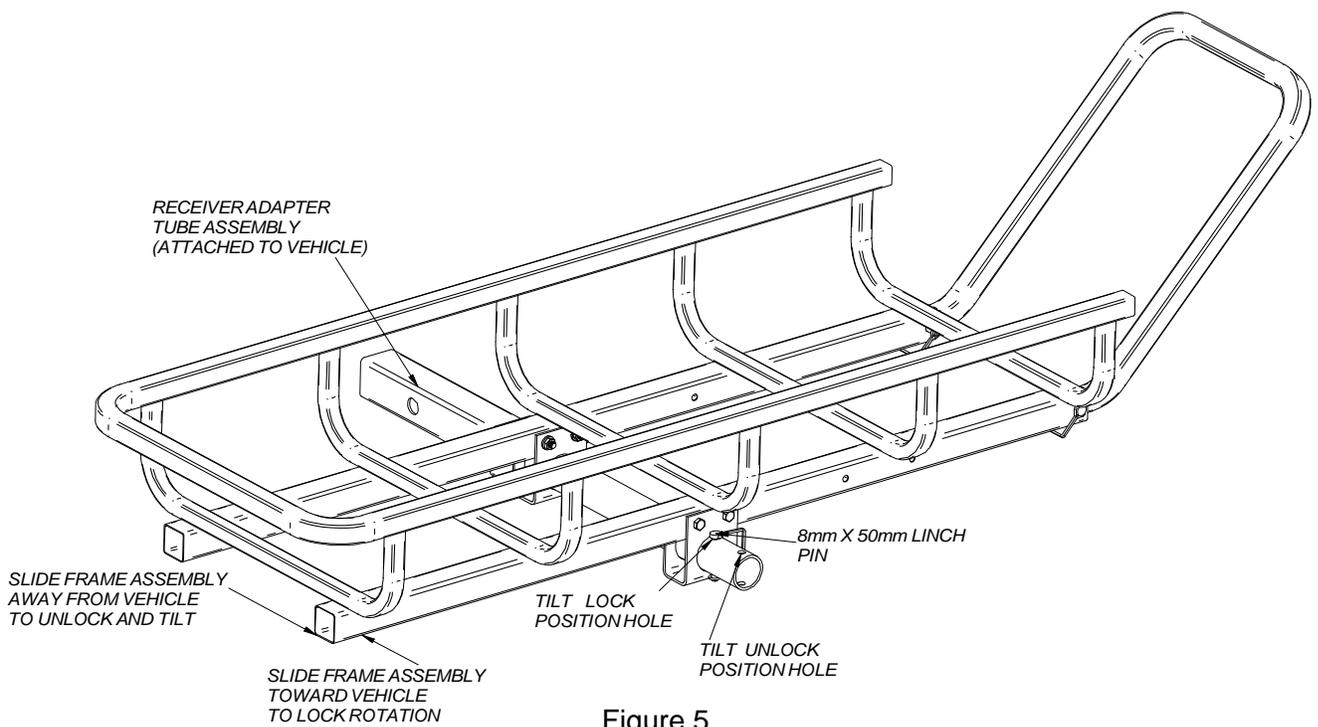

Figure 5
When attached to a vehicle as shown in figure 5, the unique Tilt-n-Go design allows for easy loading of bulky or heavy objects onto the frame. The rotation lock bracket assembled in step one is designed to engage and disengage the square section of the receiver adapter tube assembly. By sliding the frame assembly fore and aft on the receiver adapter tube assembly, the square coupling will allow or prevent rotation as desired. The 8mm x 50mm lynch pin is used to restrain the fore and aft movement, or to allow the frame assembly to be removed from the vehicle for use as a utility cart (with the wheel assembly attached).
**To Unlock and Tilt the Frame Assembly:** Remove the 8mm x 50mm lynch pin retaining spring wire and remove the pin from the tilt lock position hole (figure 5) and re-insert it into the tilt unlock position hole. Re-engage the retaining spring wire. Now pull the frame assembly away from the vehicle until it stops against the lynch pin. The frame assembly may now be rotated in either direction for easier loading.
**To Lock the Frame Assembly for transportation:** Rotate the frame assembly to the horizontal position, as shown in figure 5. Slide the frame assembly forward toward the vehicle to reengage the rotation lock bracket with the receiver adapter tube. Make certain the frame assembly is completely forward to allow the 8mm lynch pin to be inserted and locked into the tilt lock position hole (figure 5). **Warning!** Do not use the Tilt-n-Go for transportation unless the frame assembly is secured as shown in figure 5.